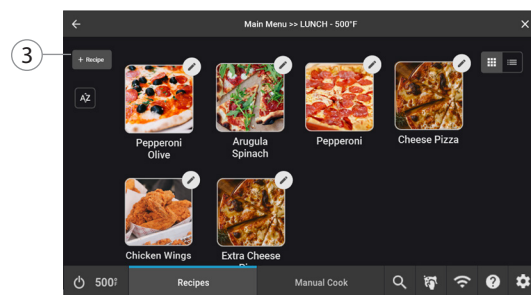

Figure 33: Add Recipe to Group
3. Touch the “+Recipe” button (Figure 33, above).